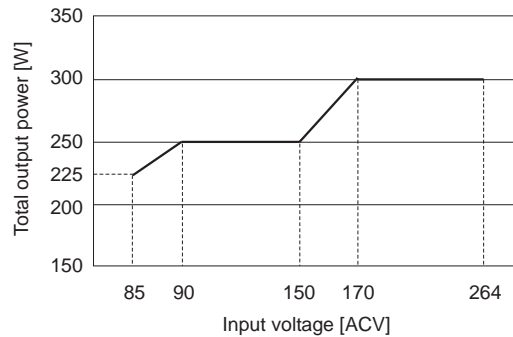
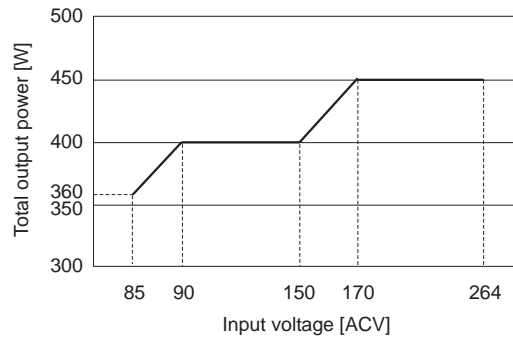
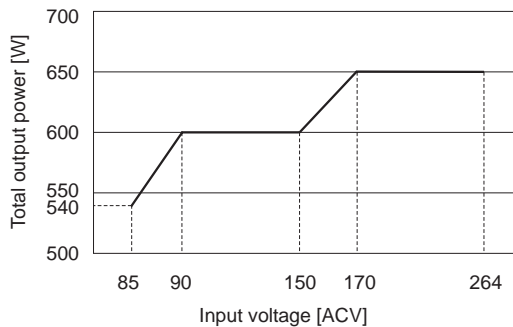

Fig.4.7 Derating curve depending on input voltage(ACE300F)
Fig.4.8 Derating curve depending on input voltage(ACE450F)
Fig.4.9 Derating curve depending on input voltage(ACE650F)
■Derating curve depending on input voltage is shown in Fig.4.7, Fig.4.8, Fig.4.9 and Fig.4.10.